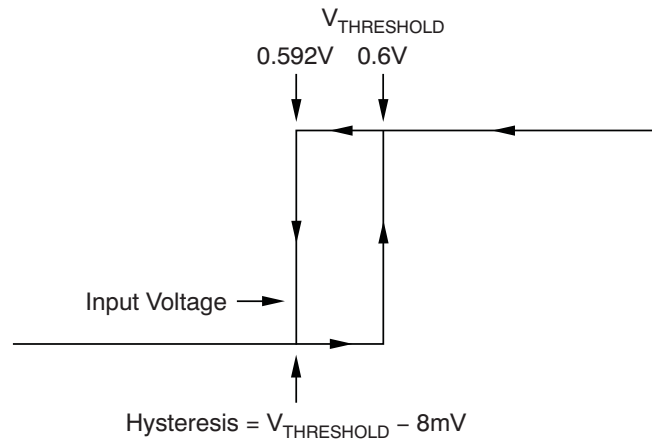

FIG 1. Typical Comparator Hysteresis
- (1) Hysteresis refers to the threshold (the threshold specification applies to a rising edge of a noninverting input) of a falling edge on the noninverting input of the comparator; refer to Figure 1.
- (2) Specified by design.
- (3) V_{ID} refers to the differential voltage at the comparator inputs.
- (4) Open-drain output can be pulled to the range of 2.7 to 18 V, regardless of V_S .
- (5) The comparator response time specified is the interval between the input step function and the instant when the output crosses 1.4 V.
- (6) The RESET input has an internal 2 M Ω (typical) pull-down. Leaving RESET open results in a LOW state, with transparent comparator operation.